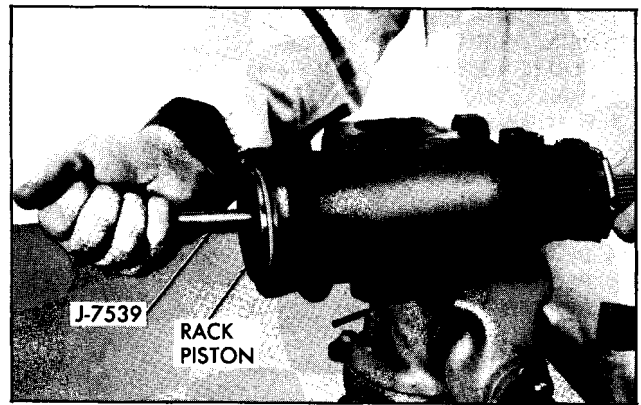

Fig. 9-84 Removing Rack-Piston
- a. Insert ball retainer tool J 7539 into the rack-piston bore with pilot of tool seated in the end of the worm (Fig. 9-84).